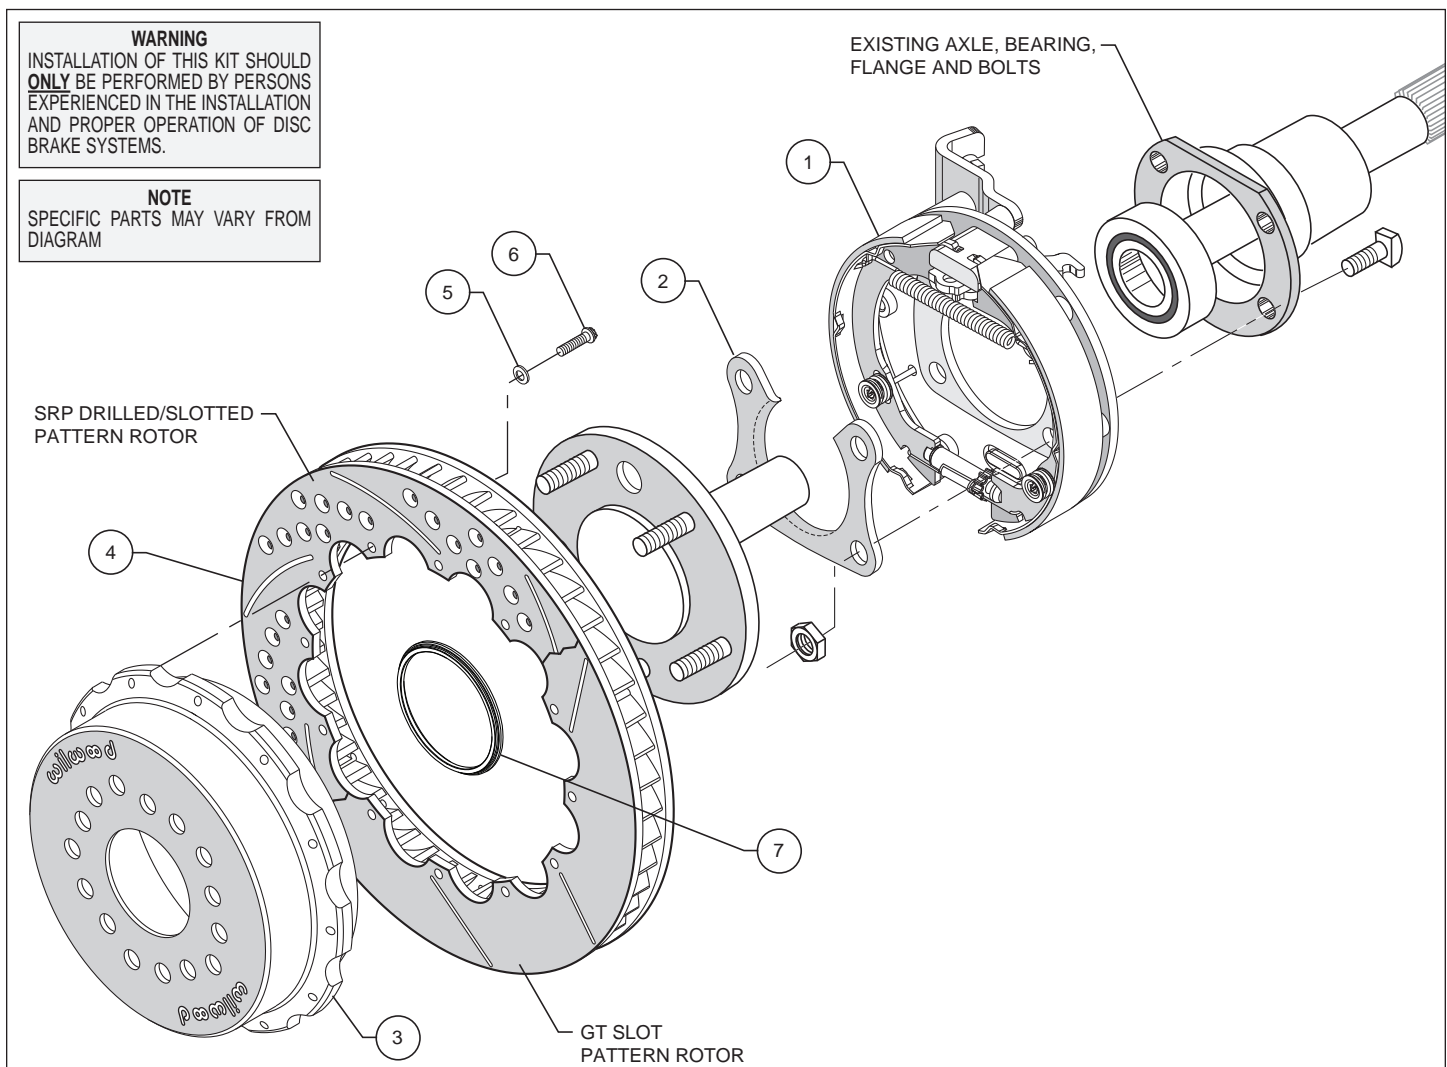

Figure 1. Typical Installation Configuration
- Slide the bracket kit assembly (1) onto the housing flange and then insert the axle assembly through the center hole of the bracket kit assembly (1). Align the bearing retainer (2) with the four holes inside the bracket assembly (1) and secure using the stock Original Equipment Manufacturer (OEM) bolts and nuts, Figures 1 and 2. Stock OEM hex nuts that retain the bracket kit assembly (1) and retainer (2) should be on the wheel side of the bracket. Apply red *Loctite*® 271 to the stock OEM bolt threads and torque to OEM specifications. Make sure the bracket kit assembly (1) brake pads are FACING OUTWARD TOWARDS THE WHEEL.